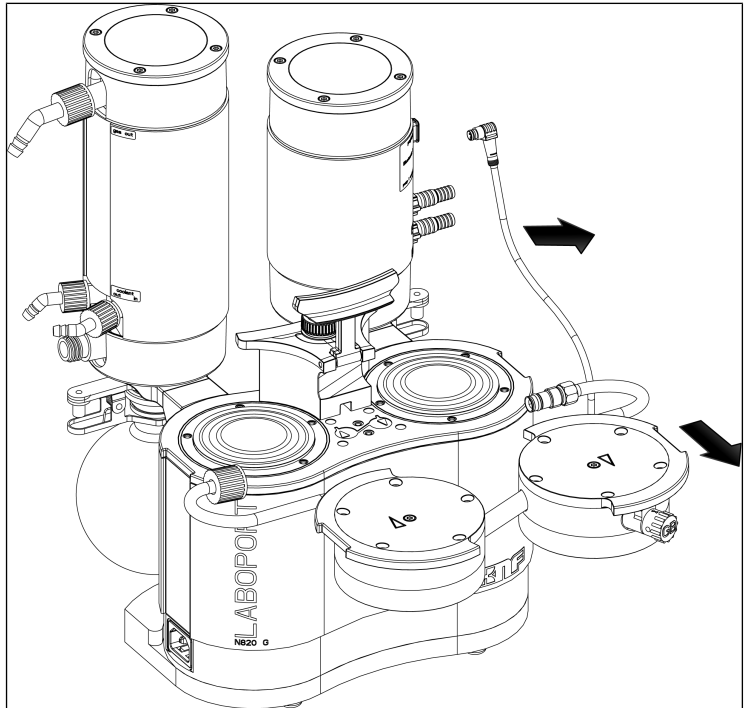

Fig.27: Remove pump heads
3. Carefully remove the pump heads to the side (see Fig. 27).